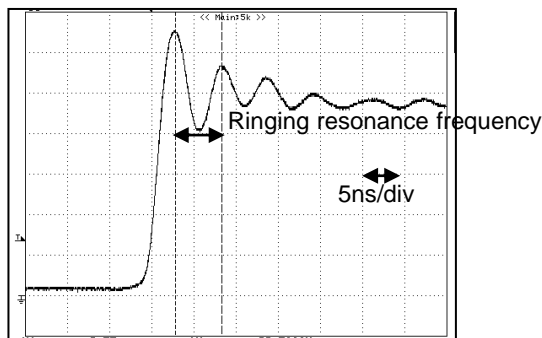

Figure 76. PWM Output waveform (Measure of spike resonance frequency)
1. Measure the ringing resonance frequency “ $f_1$ ” of PWM output waveform (when rising) by using low capacitance Probe (e.g. FET probe) at the OUT terminal. (Figure 76)